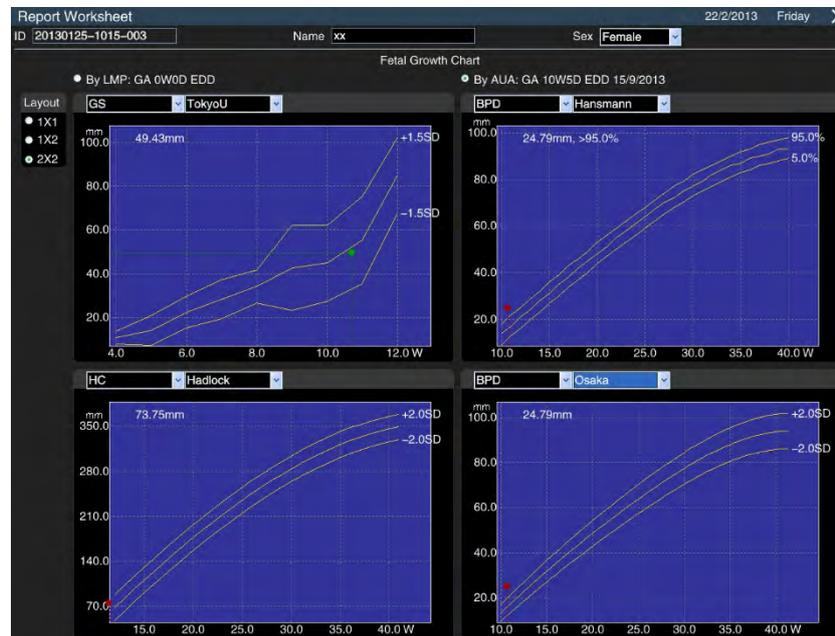

Fig. 8-39 Growth chart (four images)
**Layout**, on the left side of the screen, is for choosing displayed growth curves and the position that is convenient for a comparative analysis. 1 × 2 is for two images displayed side-by-side. 2 × 2 is for four images displayed in two lines, as shown in Fig. 8-39.